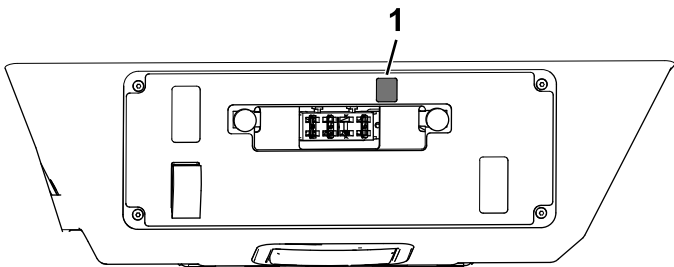

Figure 26
2. Apply decal 145-7727 to the console panel assembly as shown in Figure 26.